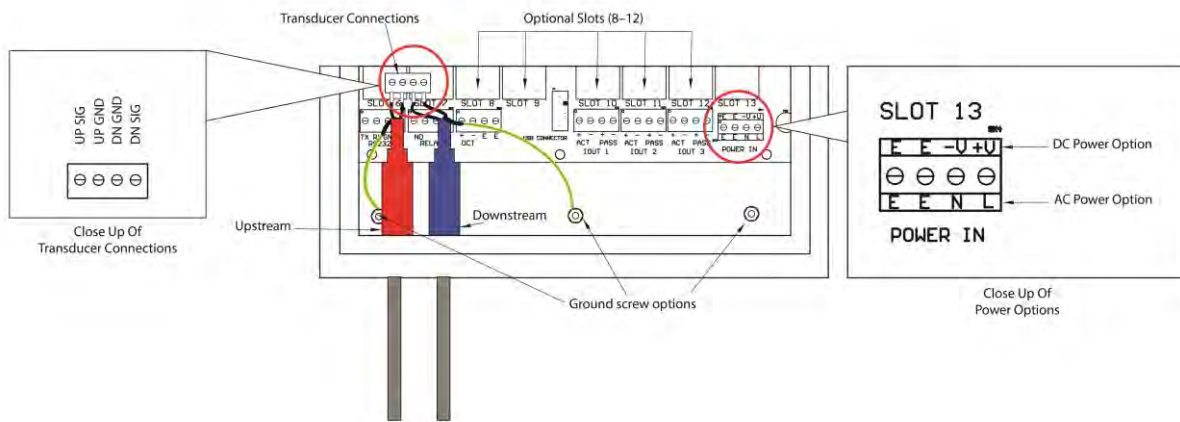

Figure 5. 207i AC and DC Power Options: Minimum Required Wiring
- Option P2: DC Powered 9-36 VDC, 0.5 Amps. (See Figure 5 DC power-option).
- Option P3: AC Powered 100-240 VAC, 50-60 Hz, .5 Amps. (See Figure 5 AC power-option).
- Open the hinged top cover of the electronics (see Figure 5). The power input terminal block is labeled POWER IN. On the AC power unit, it is labeled E N L, and on the DC powered unit it's labeled E -V +V (See Figure 5).
AC power connections; L to AC Line (hot), N to Neutral, E to safety Earth ground; 100-240 VAC, 50-60 Hz, .5 Amps (See Figure 5). If the AC mains wiring is not installed in conduit, a ferrite core should be installed (CE requirement) just inside of the enclosure with 2 turns (3 passes) of the AC wiring thru it. Ferrite core Wurth Electronics pn 74270095/Digi-Key pn 732-1564-ND or similar should be used.
DC power connections; V+ to DC plus, V- to DC power return, The E connections are optional Earth ground; 9-36 VDC at 0.5 Amps (See Figure 5).
Connect the upstream (Red) transducer white wire to the UP SIG terminal on the ultrasonic board, and the black wire to the UP GND terminal. The Green/Yellow wire is the Earth Ground wire. It attaches to the enclosure ground screw as shown (See Figure 5).
Connect the downstream (Blue) transducer white wire to the DN SIG terminal on the ultrasonic board, and the black wire to the DN GND terminal. The green/yellow wire is the Earth Ground wire. It attached to the enclosure ground screw as shown (See Figure 5).